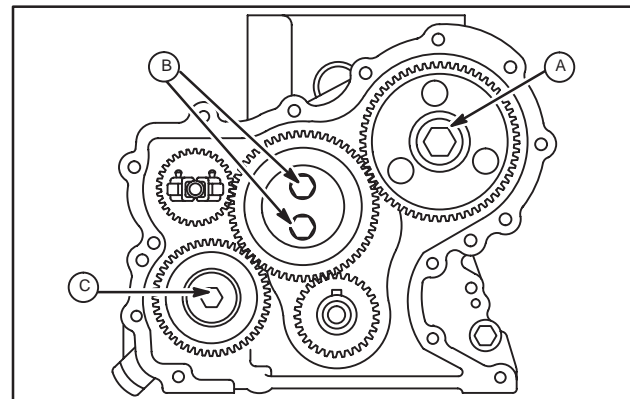

Fig. 16 – Torque Screws
7. Torque screws as shown, Fig. 16.